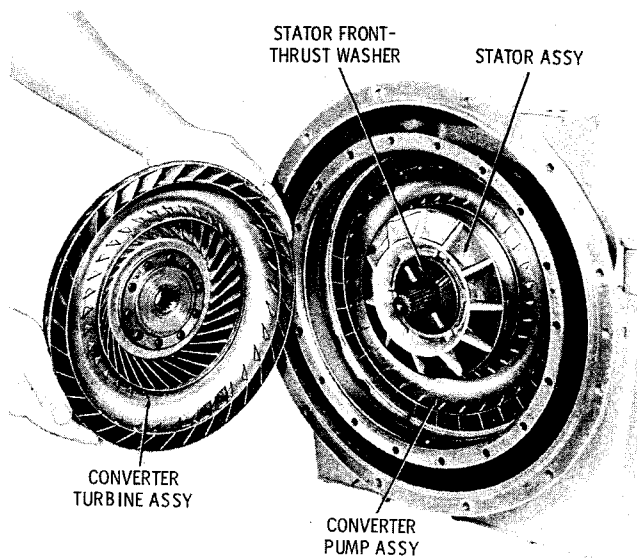

Fig. 7-2. Installing converter turbine assembly (TC 200)
(4) Install snapping 6 (A, foldout 3) into its groove on the stator support. In addition, install thrust washer 56 into assemblies before S/N 31823.
(5) Install turbine assembly (fig. 7-2).
(6) Install thrust washer 4 (A, foldout 3).